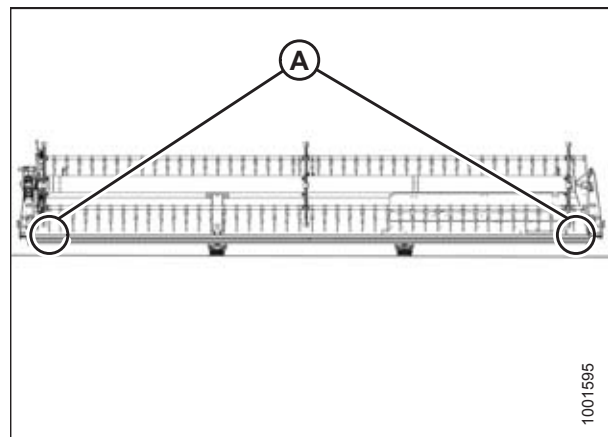
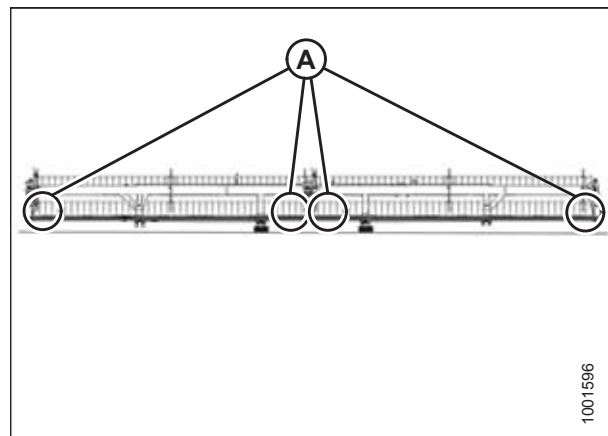

Figure 5.240: Single Reel Measurement Locations (Two Places)
Figure 5.241: Double Reel Measurement Locations (Four Places)
5. Measure the clearance (X) between points (B) and (C) at the ends of each reel (A). (Refer to Figure 5.240, page 496 and Figure 5.241, page 496 for measurement locations.)